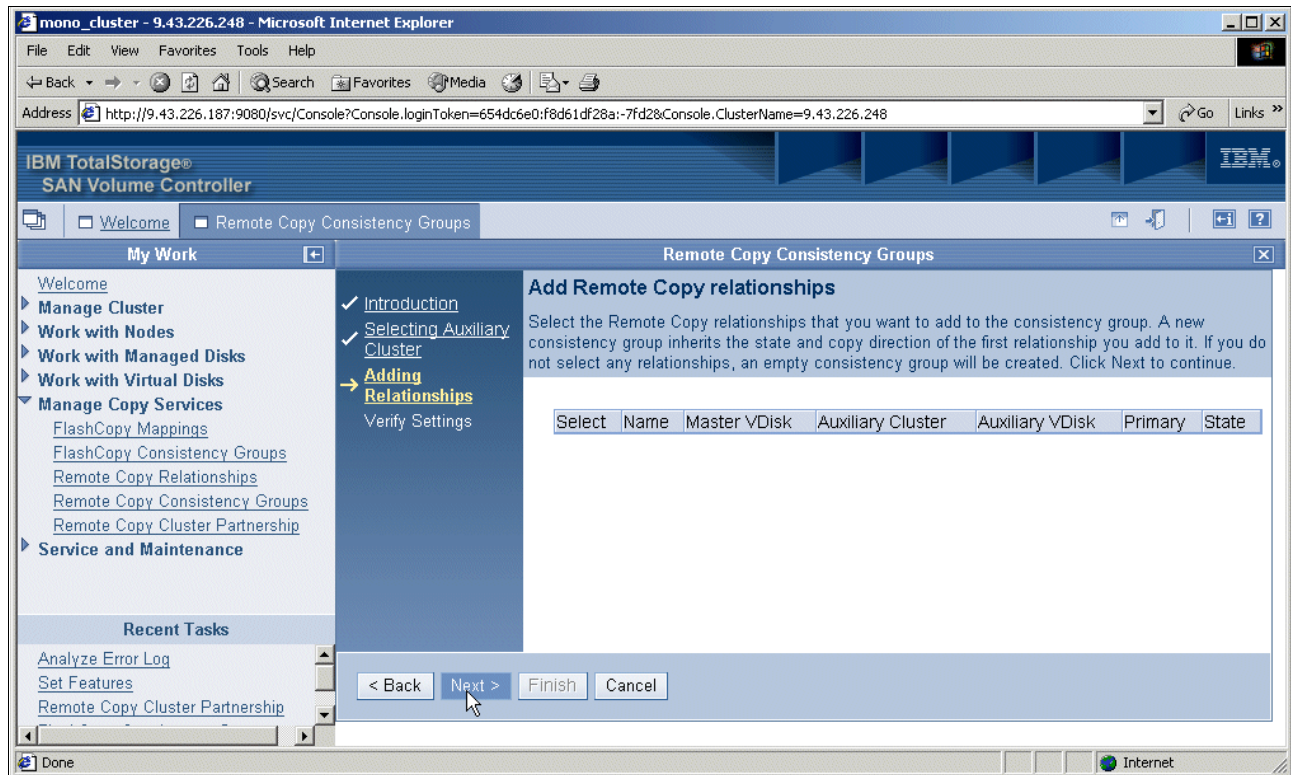

Figure 11-14 Add Remote Copy relationships
6. On the Add Remote Copy Relationships panel (Figure 11-14), add remote copy relationships to the consistency group. When you are finished, click **Next**.